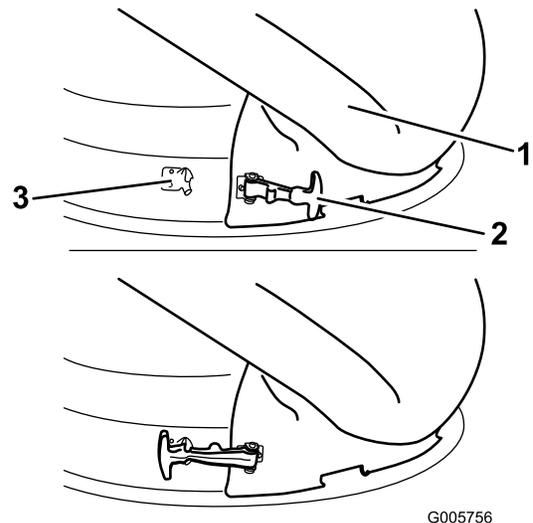

Figure 12
5. Secure the chute to the 54 inch deck. Hook the flexible latch on the chute to the retaining clasp welded on the mower deck to the rear of the opening (Figure 12).